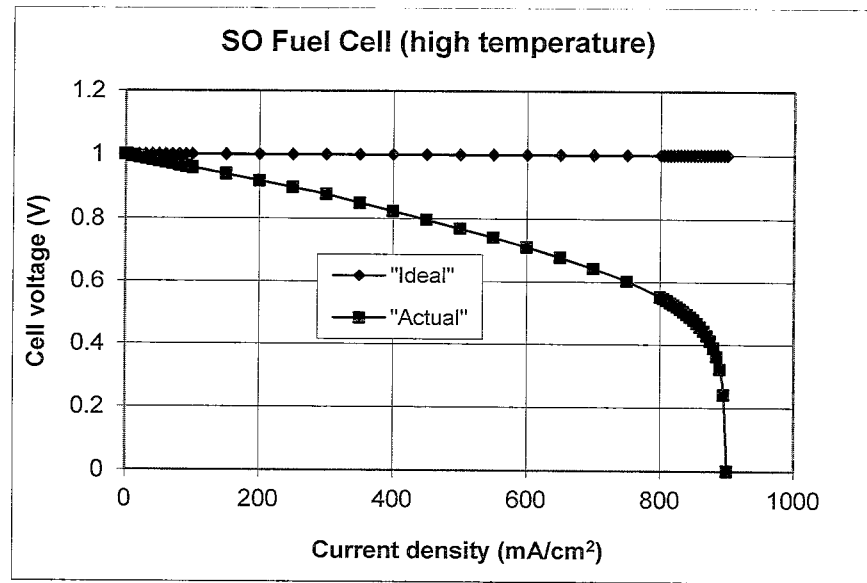

Figure 1
2. a. Figure 1 shows the output voltage characteristic of a solid oxide fuel cell (SOFC) operating at 800°C . Discuss the key features of the characteristic, and identify the main causes of the cell voltage reduction from the ideal value of 1.0V. (10)